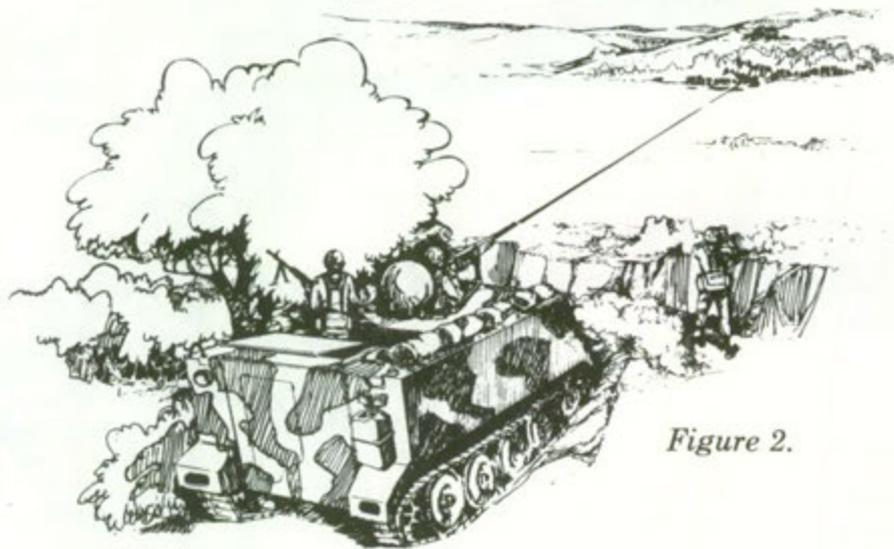

Figure 2.
- b. Select a position for the APC that offers cover and concealment (hull-down if possible). Camouflage the cupola. This position must offer good observation and fields of fire on the next terrain feature forward and on probable enemy firing positions (figure 2).